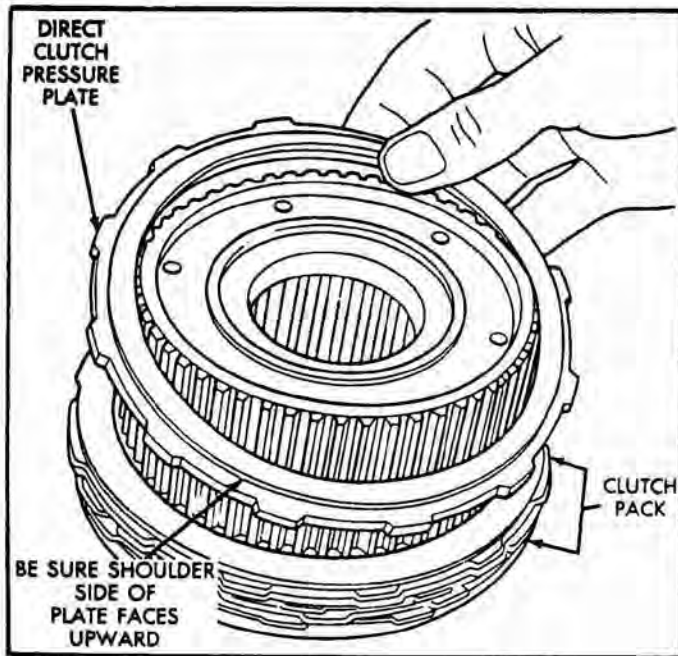

Figure 16
21. Install the first lined direct clutch plate over the hub and against reaction plate, followed by a steel plate, until the proper amount of plates have been installed (See Figure 16).
22. Install the direct clutch pressure plate on top of the last lined plate with the shoulder side of the pressure plate up, as shown in Figure 16.